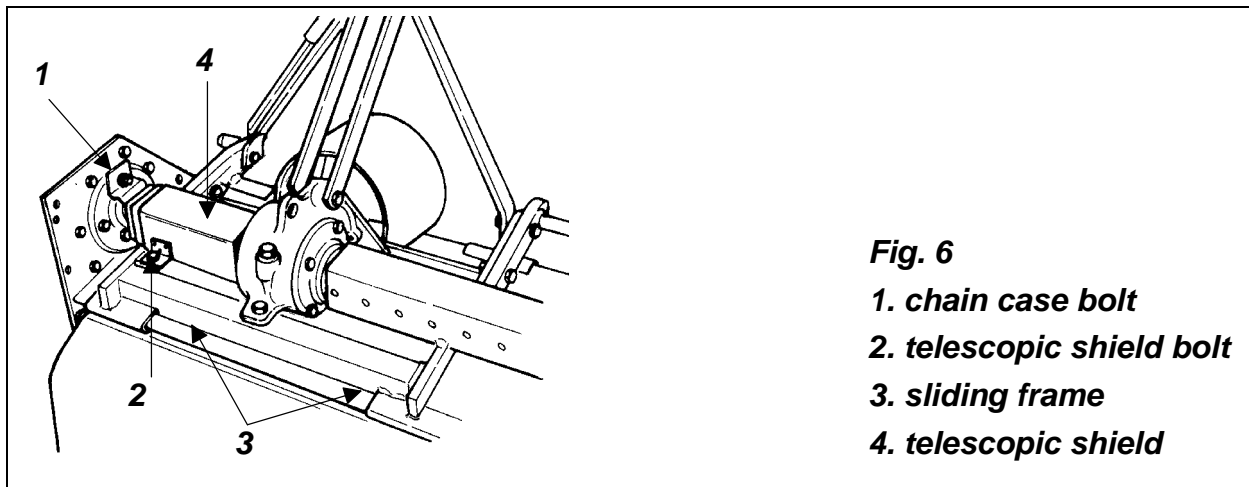

Fig. 6
10. The hexagonal drive shaft is protected by a telescopic sliding shield (see #4, fig. 6 & 7). To attach this shield do the following: bolt the upright tab to the chain case side plate (see #1, fig. 6); open the telescopic shield and bolt the outer cover (see #2, fig. 7) to the retaining plate on the sliding frame (see #3, fig. 7); ensure that the telescopic shielding (see #4, fig. 7) when open does not touch the hexagonal shaft and is as parallel as possible; slide the frame (see #3, fig. 7) back two or three times